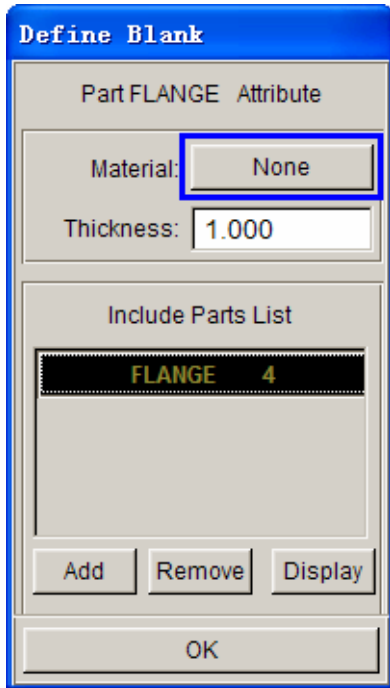

Figure 1.23: Define material
- 3) Mouse click to select FLANGE part in the list. The selected part change into black, and then select None button behind Material to enter Material dialogue box. At this time, all elements in the selected part are highlighted. See figure1.23~1.24.